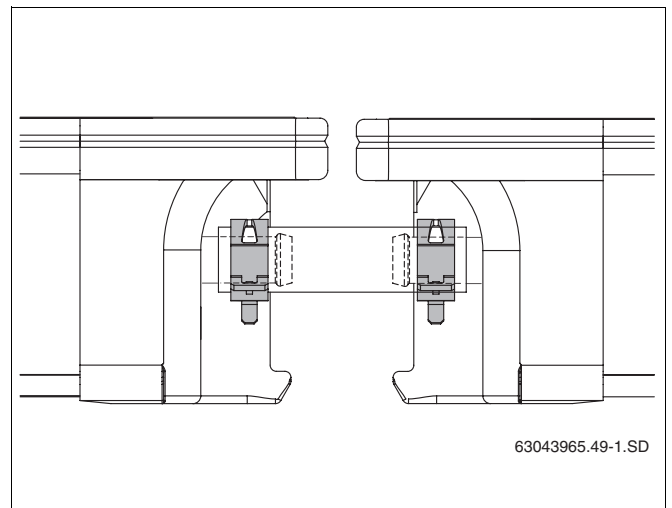

Fig. 50 Solar hose with secured hose clips
- Secure every solar hose to the collector connection using a hose clip (Fig. 50).